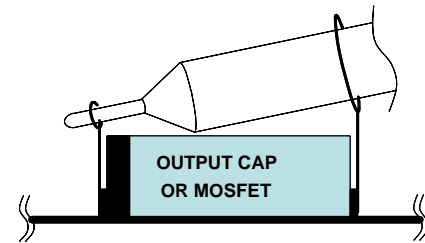

FIGURE 3. OSCILLOSCOPE PROBE SET-UP
6. Use an oscilloscope to observe the output ripple voltage and phase node ringing. For accurate measurement, please refer to Figure 3 for proper probe set-up.